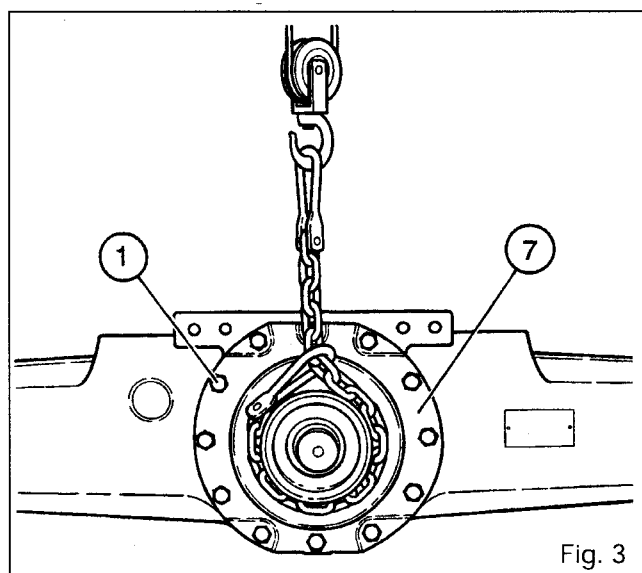

Fig. 3
10. Remove the bolts (1). Detach and remove the differential housing assembly (7) (Fig. 3). If necessary, remove the deflector (46).